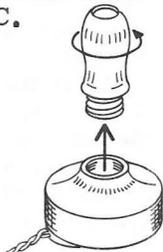

Figure 3-73A
- () Take the earphone apart as shown in Figure 3-73A.